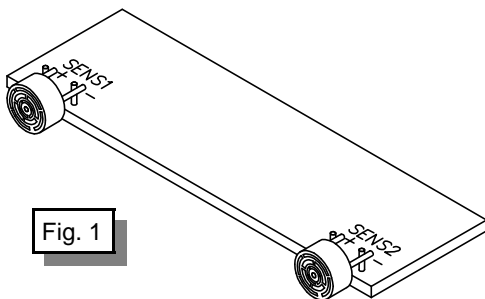

Fig. 1
A) With the sensors in upright position (fig. 1):